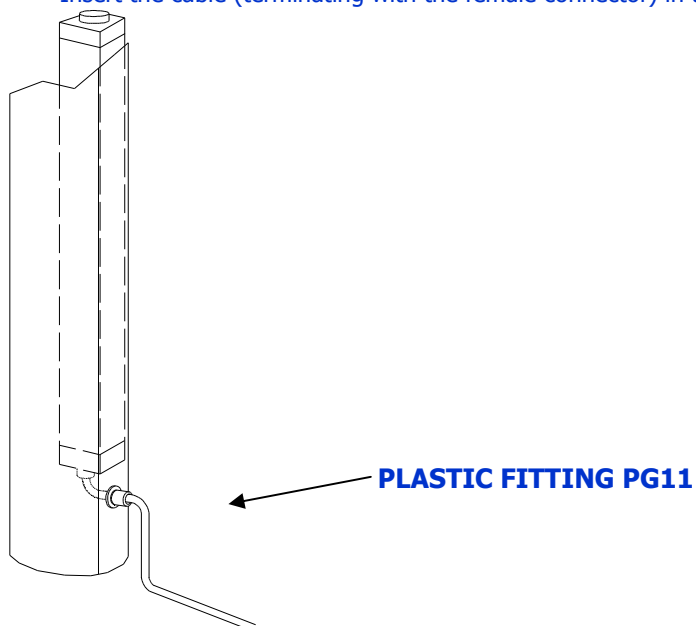

Figure 5
FITTING FOR CABLE (COLUMN ST CL *P) (Fig. 5)
- Insert the cable (terminating with the female connector) in the PG11 plastic fitting, housed in the column (figure 5).